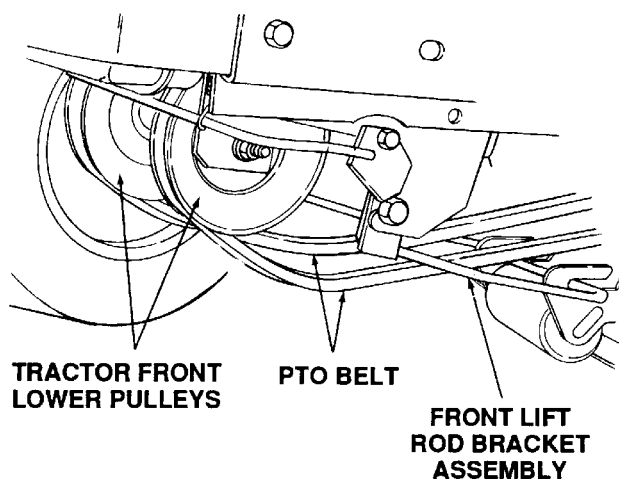

Figure 43
5. Pass the PTO belt downward, inside the tractor frame, until the belt is below the two tractor front lower pulleys and pull the belt clear of the tractor (See Figure 43).